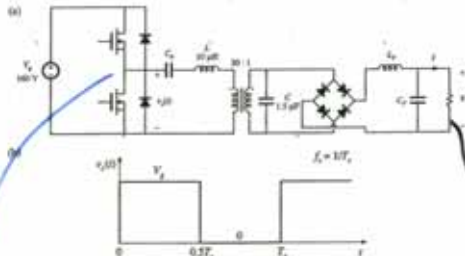

Fig. 1 Half-bridge parallel resonant converter of Problem 1. (a) schematic, (b) switch voltage waveforms.
1. Analysis of a half-bridge parallel resonant converter operated above resonance. In Fig. 1, the elements C_1 , L_m , and C_2 are large in value, and have negligible switching ripple. You may assume that all elements are ideal. You may use the sinusoidal approximation as appropriate.